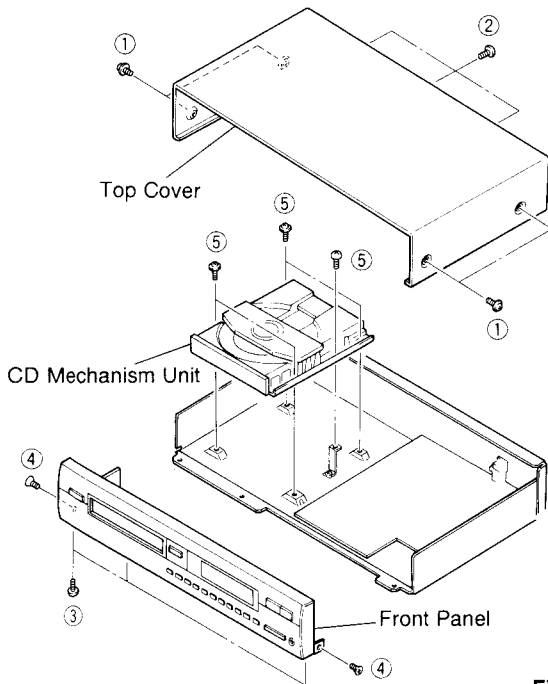

Fig. 1
- Remove 4 screws (①) and 3 screws (②) in Fig. 1.
- Remove 3 screws (③) and 2 screws (④) in Fig. 1.
- Remove 5 screws (⑤) in Fig. 1.